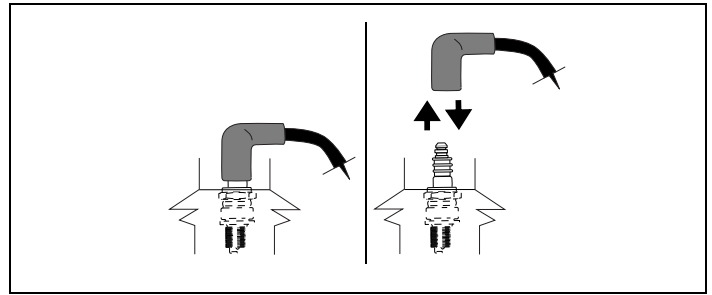

Figure 38. Disconnecting/Connecting Spark Plug
1. Carefully disconnect spark plug wire and keep it away from spark plug. See Figures 38 and 39. See "G" Avoid Accidental Starts" instructions on page 2. Afterward, continue reading instructions below.